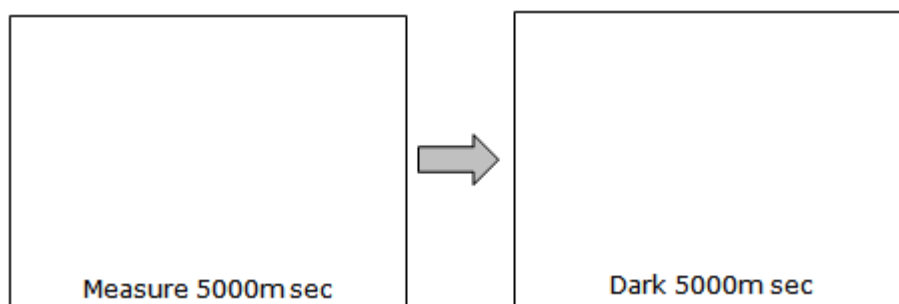

Figure 6-5. Measurement Screen
- (1) A sequence of following measurements is performed once. Dark current is measured after the spectral measurement as shown on Measurement Screen (Figure 6-5).